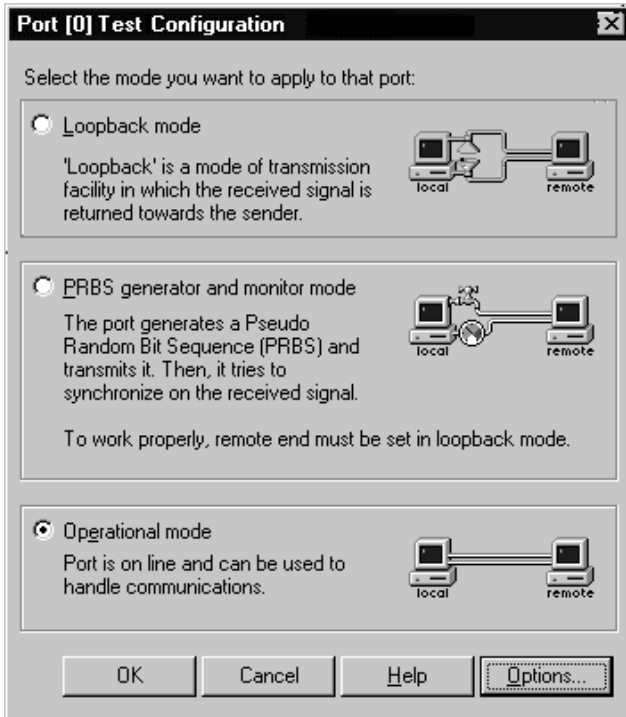

Figure E-2. Port Test Configuration Dialog
To select this mode, select **Loopback mode** on the Port Test Configuration dialog (shown in Figure E-2 on page 103).
To select this mode, select **PRBS Generator and Monitor mode** on the Port Test Configuration dialog (shown in Figure E-2 on page 103).
To return the port to Operational mode, select **Operational mode** on the Port Test Configuration dialog (shown in Figure E-2 on page 103).
1. Click **Options** on the Port Test Configuration Dialog (shown in Figure E-2 on page 103).